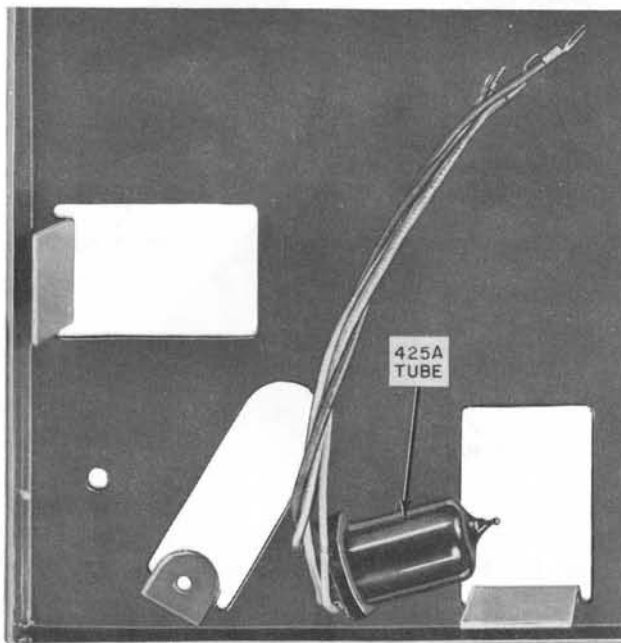

Fig. 12—Installation of Cold-Cathode Tube on Base Pan Assembly
2.11 To install the electron tube to the base pan assembly of a D-180071 or D-180072 Kit of Parts, secure the tube to an existing hole in the base pan using the screw furnished with the tube (Fig. 12).